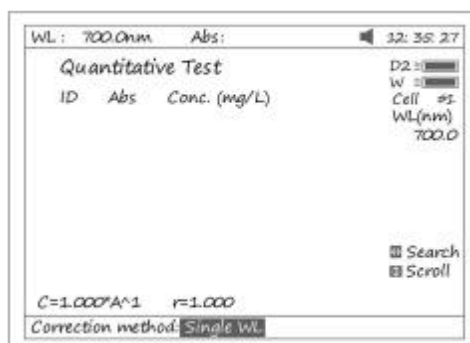

Fig 28
2. Press **【SET λ】** to select correction methods and enter the wavelength. There are three correction methods (single, Isoabsorbance and 3 point, Fig 28)